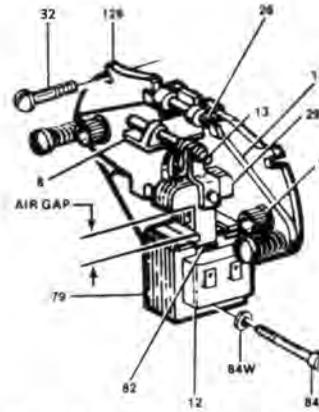

Figure 1. Motor Brake Adjustment
The motor brake should be checked periodically for wear of the friction discs and/or proper adjustment of the solenoid air gap. Refer to Figure 1. Normal lining wear will cause the solenoid lever (8) to move away from the solenoid frame (79) and thus increase the air gap and trolley stopping time.
1. De-energize the power supply to the trolley and remove the motor/brake assembly from the gear reducer. Remove housing (3) from the brake.
2. Remove the entire support plate assembly by unscrewing 3 screws (32). Remove the stationary disc (11) and worn friction disc (12). Install the new friction disc, making sure that the two stabilizing springs are at 90° in the recessed portion of the squared hole in the friction disc, with the prongs pointing into the brake. Place the stationary disc on the friction disc and re-assemble the entire support plate assembly engages the guide pins of the end plate.
3. Remove both access covers (5) from the housing (1) and slide the housing with its shaft assembly on to the mounting studs. Be sure the housing is assembled with access windows above the horizontal centerline. Rotate shaft to engage key into the hub keyway.
6. Re-energize power supply and operate trolley a few times to make sure air gap is correct and then replace access covers (5).
**(Refer to Figure 1 on page 17 and Exploded View Drawing on page 48).**
2. Remove housing (3) from the brake and disconnect the coil wires from the cord.
3. Insert screw driver between support plate (126, Fig.1) and the top of lever arm (17, Fig.1). Wedge these apart and remove bearing pin (26, Fig.1) and solenoid lever (8, Fig.1) with link (13, Fig.1) and plunger (29, Fig.1).
4. Remove plunger guide screw (84, Fig.1) and both plunger guides (82, Fig.1). Slide old coil sideways out of the frame (79, Fig.1). If coil is difficult to move, tap lightly with a soft hammer.
5. Install new coil in the same relative position as the old coil and replace the plunger guides (82, Fig.1) and screw (84 and 84W, Fig.1).